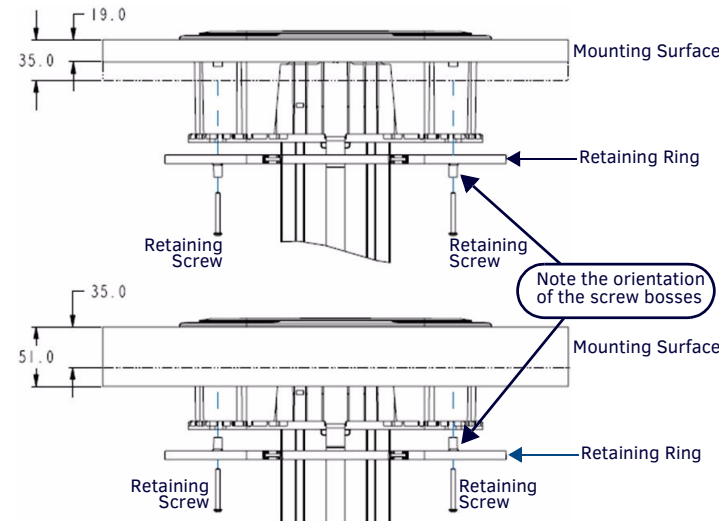

FIG. 4 DIRECTION OF THE SCREW-BOSSSES, BASED ON SURFACE THICKNESS (19MM VS. >19MM THICK)
- Through the retaining ring, (note the orientation of the retaining ring - see FIG. 4 on page 2),
Note the direction of the screw bosses, as indicated in FIG. 4:
- Insert the four #6-32 x 1 3/8 retaining screws into the retaining ring. Note the orientation of the retaining ring. This orientation changes in order to accommodate the various thicknesses of mounting surfaces (see FIG. 4 on page 2). Note the direction of the screw bosses.